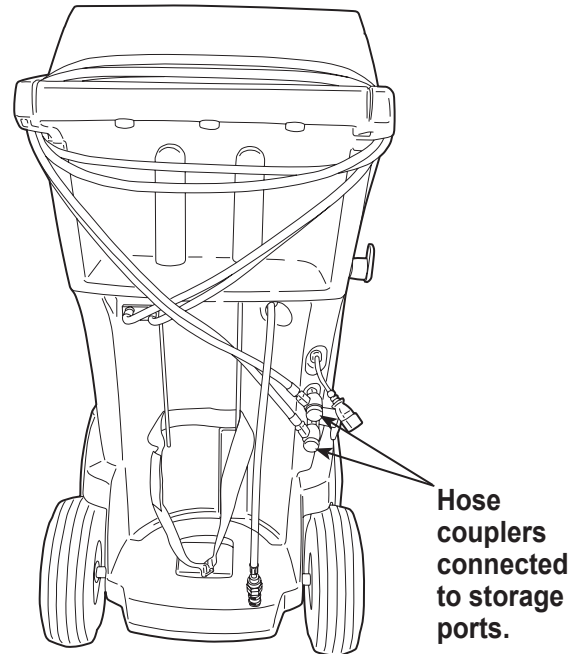

Figure 22
2. Loop the service hoses around the handle twice and attach them to the storage ports. See Figure 22.